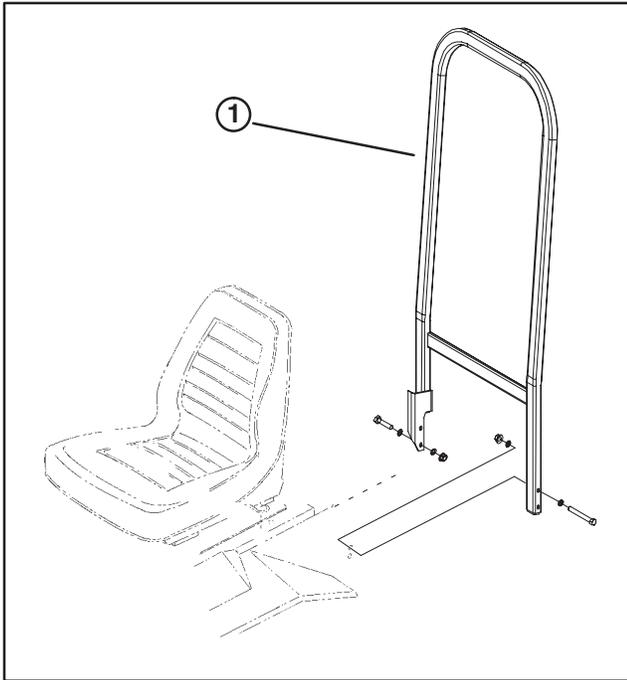

Figure 10
3. Secure each leg of ROPS to machine frame with a capscrew, (2) flatwashers and a flange lock nut previously removed (Fig. 10). Shorter capscrew used to secure right leg of ROPS frame. Capscrew heads to be positioned outward. Torque fasteners to 50-60 ft-lbs.